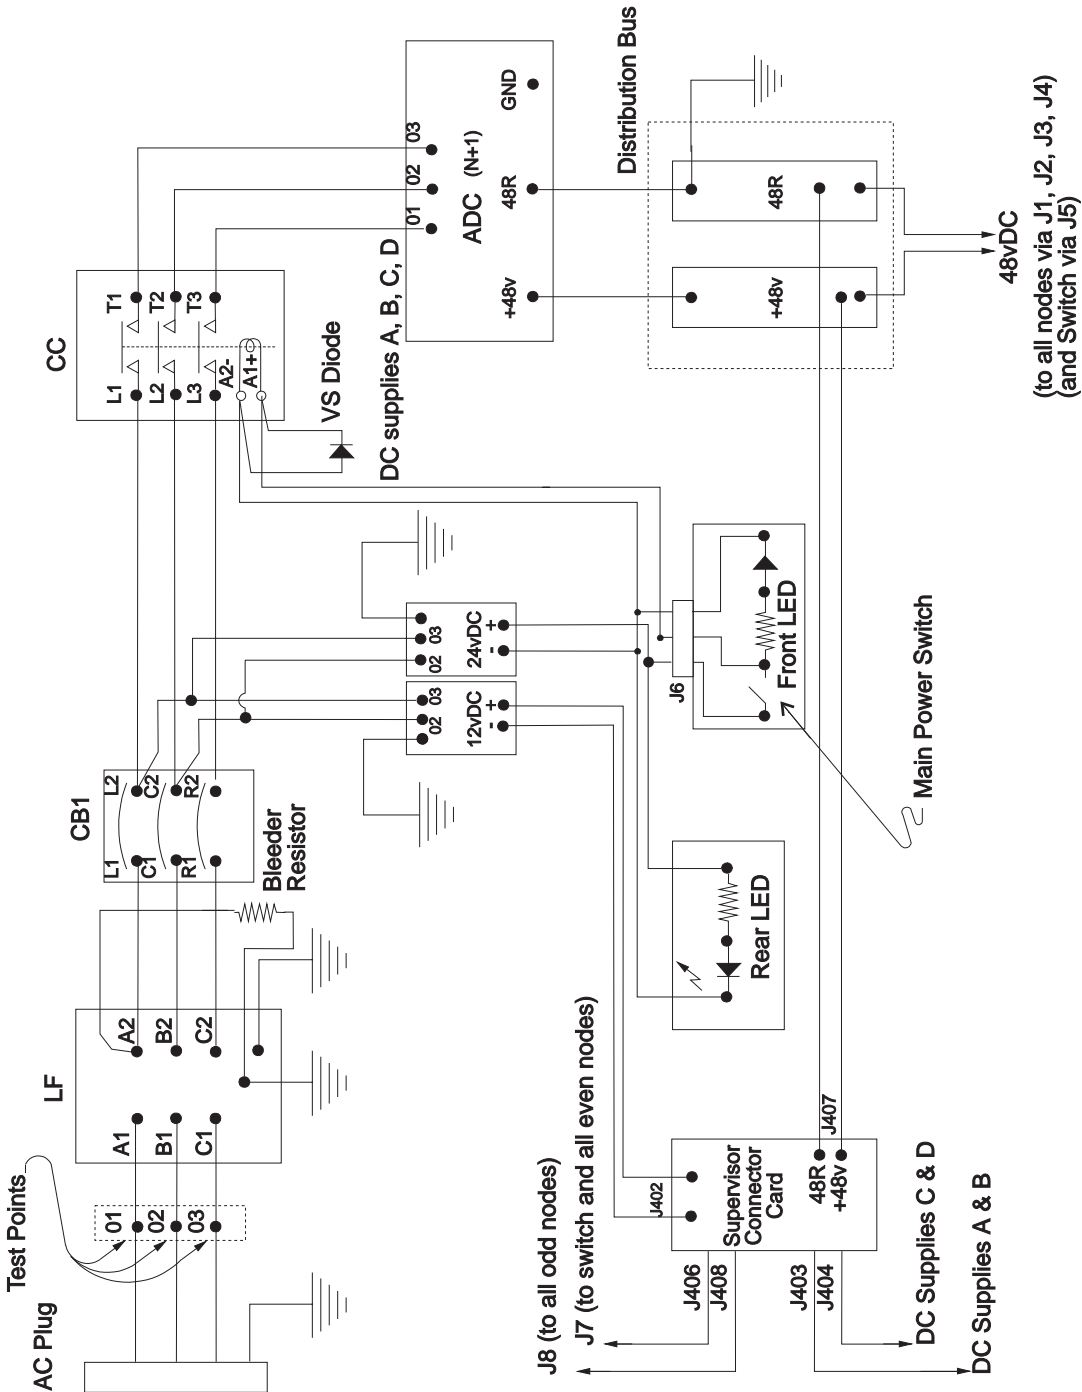

Figure 1-22. Wiring diagram of RS/6000 SP Power Distribution Unit
1. Isolate ac short between line filter and circuit breaker input using Figure 1-22 on page 1-74 as a reference.